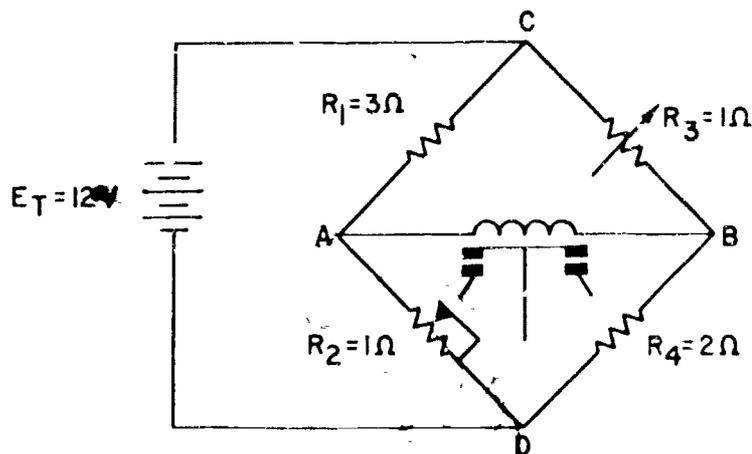

Figure 2.
Refer to figure 2, and answer the following questions on the response sheet.
- Figure 2: 1. 3v, 2. 3v, 3. 8v+,